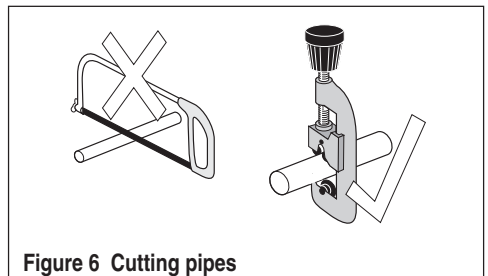

Figure 6 Cutting pipes
3.12 Cut all necessary pipework to length with a pipe cutter and not a hacksaw, to minimise swarf - see Fig. 6.